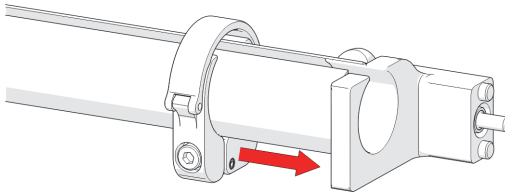

Figure 2-123 Slide clamp onto mount
4. Slide the clamp over the tube and cable management mount, pinching the tube in between (see Figure 2-123 on page 125).